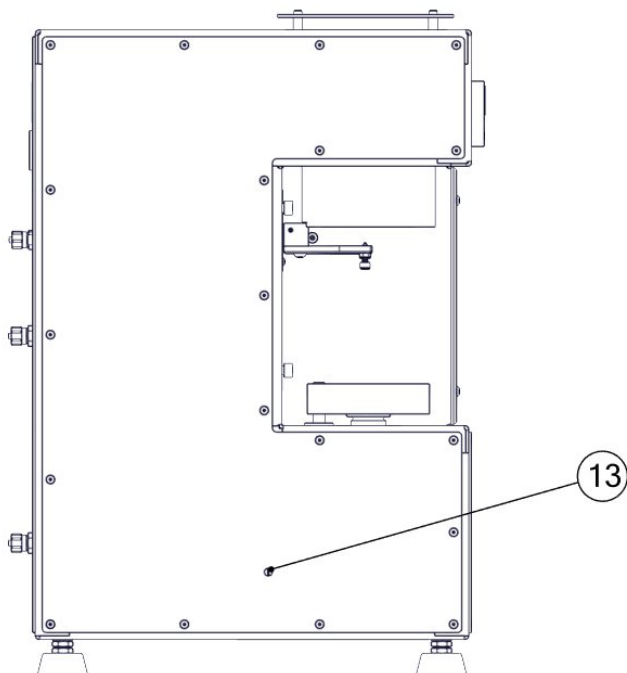

Figure 7-5 - Left Side View
- » With a small screwdriver adjust the table descending speed regulating valve (Figure 7-5, Item 13). Turning the valve clockwise will reduce the load application speed. Turning the valve counterclockwise will increase the load application speed.